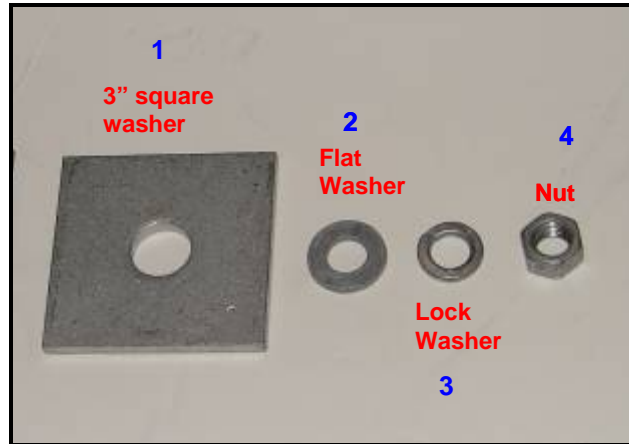

Figure 14 – EMB Washer and Nut Components
Figure 14 shows the washers and nut numbered in the order they are placed on the t-strap.
3. Secure the CT Coupler by attaching the 3” square washer. Follow this with the flat washer, the lock washer, and finally the nut. Refer to *Figure 14* which shows the numbered sequence.